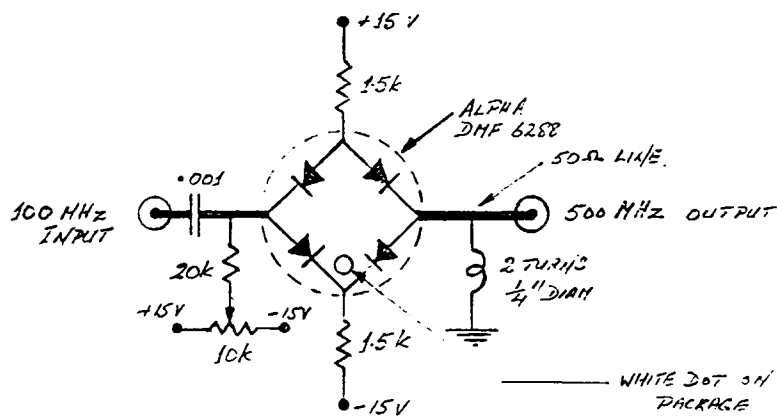
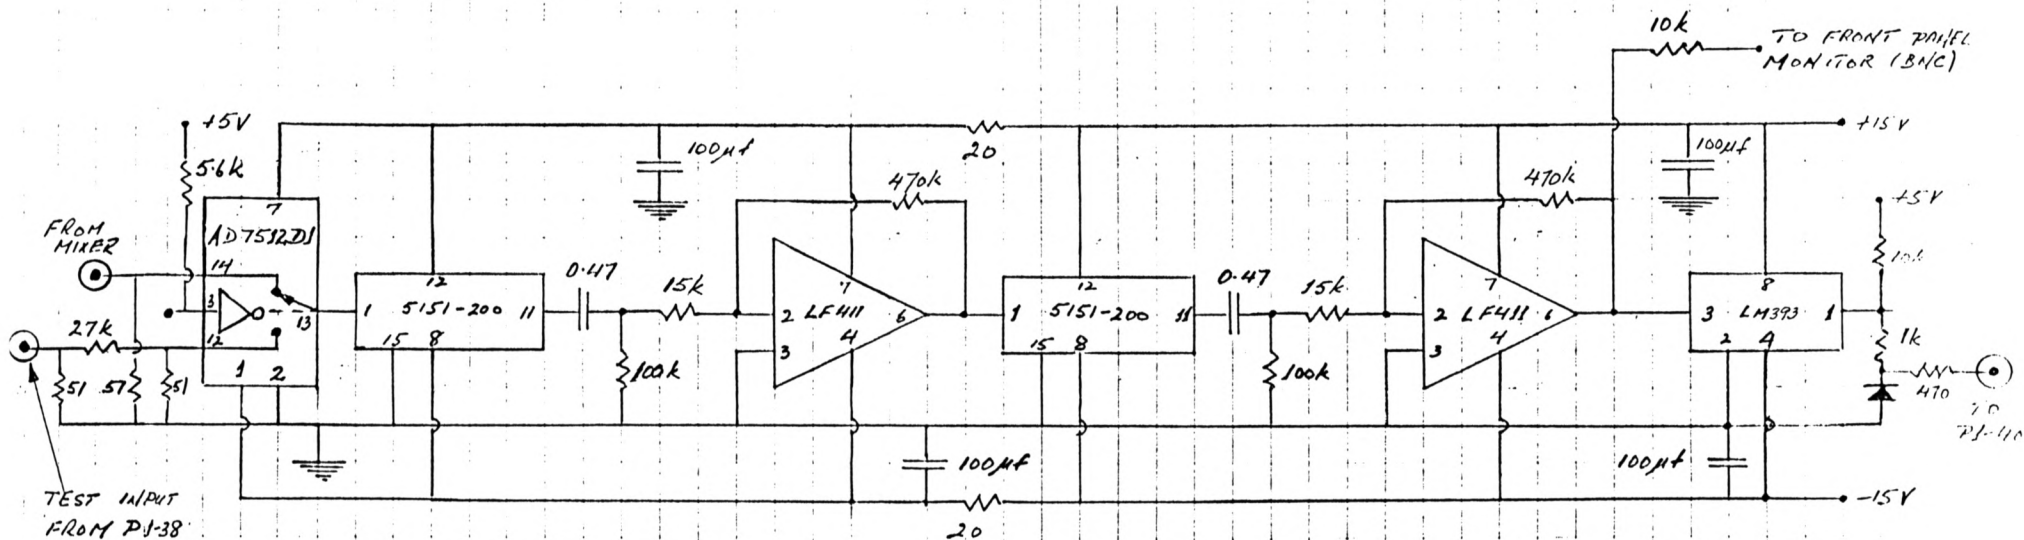

Fig. 4 X5 Multiplier circuit. The 10k trimpot is adjusted to minimize the amplitude of even-order harmonics in the output.
Fig. 5 Circuit of 130 Hz amplifier and comparator. The amplifier contains two active lowpass filter units with cutoff frequency 200 Hz.
The second output of the splitter goes to a harmonic generator to produce 500 MHz. The generator uses a design by R. Mauzy, and is shown in Fig. 4. The 500 MHz is then split and one output goes through a cable to the LO Receiver in the antenna. Before leaving the LO Transmitter it passes through a dual directional coupler with outputs on the module front panel. This coupler is included to monitor the signals on the cable. The other 500 MHz signal is used to drive the L-port of the phase-lock mixer at a nominal level of 10 dBm. Note that this level is not critical, and a range of 7 to 13 dBm is satisfactory. The phase-lock mixer is used in the phase locked loop that locks the VCXO at 500.002083 MHz. A description of the circuitry in the phase lock unit is given in the section that follows. The signals returned down the 500 MHz line from the modulated reflector are sampled by a 10-dB coupler and fed through an amplifier to the round-trip phase mixer. Note that the amplifier provides isolation to prevent signals at 500.002083 MHz that leak through the mixer from contaminating the outgoing 500 MHz. The signal from the I-port of the mixer contains the required 130.2 Hz component which is selected out by a 200 Hz lowpass amplifier, and then turned into a TTL squarewave by a comparator. A block diagram of the amplifier and comparator is shown in Fig. 5. The squarewave from the comparator goes to the Round-Trip Monitor module (L103). A switch at the input of the lowpass amplifier allows for connection to a 130.2 Hz reference waveform from the Round-Trip Monitor module for test purposes, including checking of the phase stability of the lowpass amplifier.
(7) Checkout of 130 Hz amplifier and comparator. Refer to Fig. 5 for the circuit diagram. The gain of the amplifier should be checked. At 130 Hz the voltage gain factor from the input terminal to pin 3 on the LM393 comparator should be in the range 800-1000. The lowpass response should have reduced the voltage gain by a factor of approximately 2 at 210 Hz and approximately 10 at 280 Hz. Pin 25 of the 42-pin connector should be high or open to connect the input of the amplifier to the signal input connector on the amplifier box.